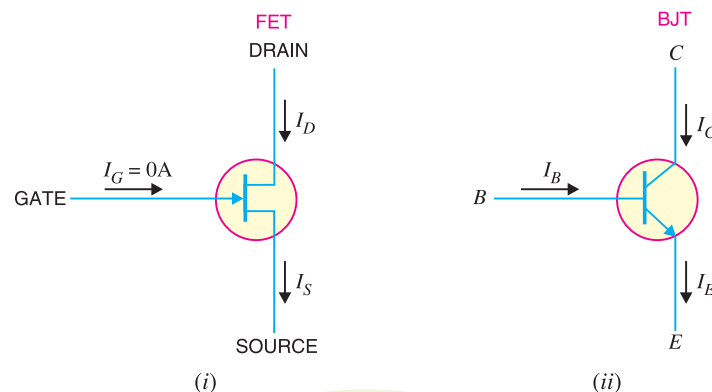

Fig. 19.5
- (iii) The primary functional difference between the *JFET* and the *BJT* is that no current (actually, a very, very small current) enters the gate of *JFET* (*i.e.*  $I_G = 0A$ ). However, typical *BJT* base current might be a few  $\mu A$  while *JFET* gate current a thousand times smaller [See Fig. 19.5].